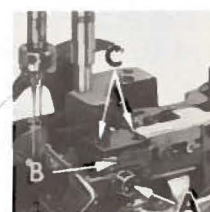
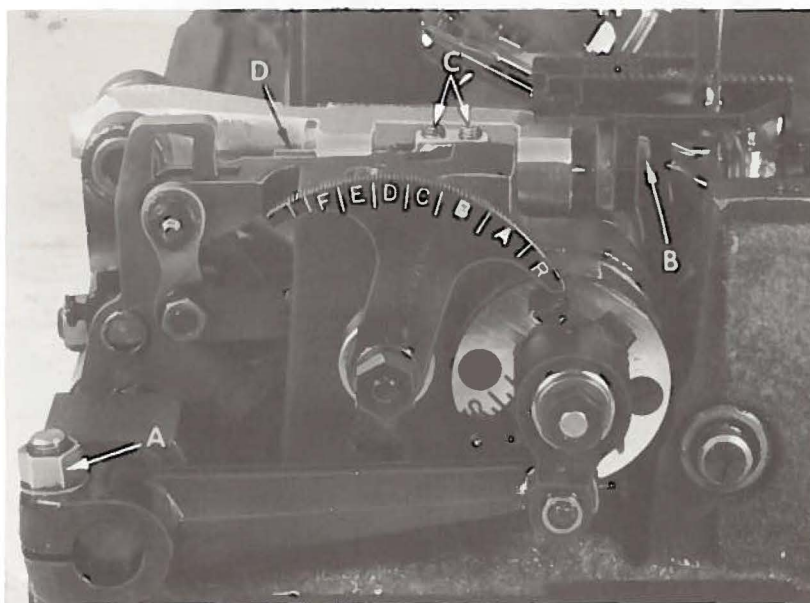

Fig. 8
Fig. 9
To raise or lower the main feed dog, loosen allen screw (A, Fig. 8) and adjust the feed dog holder (B) to set the feed dog at specified height. Retighten screw (A).
The main feed dog should have equal clearance on all sides of feed slots in the throat plate at maximum feed travel. To adjust the main feed dog across-the-line-of-feed, loosen screws (C, Fig. 8) and position feed dog as required. Retighten screws (C). To adjust main feed dog in-line-of-feed, loosen nut (A, Fig. 9) and move feed bar as required. Retighten nut.
To raise or lower the differential feed dog, loosen screw (B, Fig. 9) and set the feed dog at the required height. Retighten screw.
Loosen set screws (C, Fig. 9) and move the differential feed bar (D) forward or backward as required. The loosening of set screws (C) will also allow the differential feed bar (D) to be rotated, so the differential feed dog can be aligned parallel with the top surface of the throat plate, across-the-line-of-feed. Tighten screws securely.